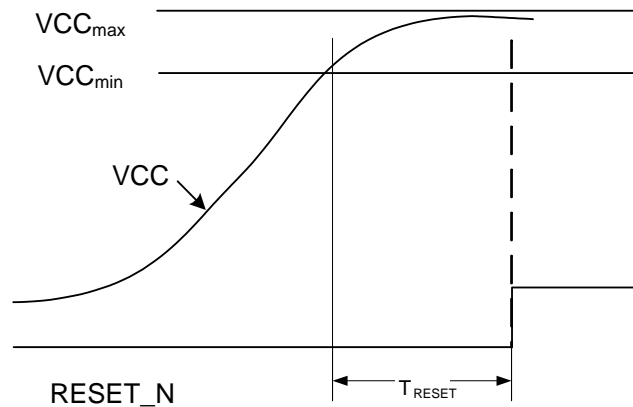
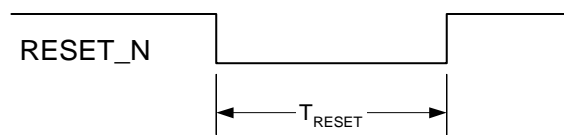

Figure 7. Conditions for Use of RESET_N
Figure 8. RESET_N Minimum Timing
- Reset on RESET_N signal can be LOW as the supply becomes stable (shown in Figure 7 on page 17), or pulled LOW for at least T_{RESET} (shown in Figure 8 on page 17).
VCC must be stable between the limits shown in the Normal Operating Conditions section on page 10 for T_{RESET} before RESET_N goes HIGH, as shown in Figure 7. Before accessing registers, RESET_N must be pulled LOW for T_{RESET} . This can be done by holding RESET_N LOW until T_{RESET} after stable power, or by pulling RESET_N LOW from a HIGH state for at least T_{RESET} , as shown in Figure 8. **Note:** VCC can be one of RnPPWR5V or SBVCC5V.